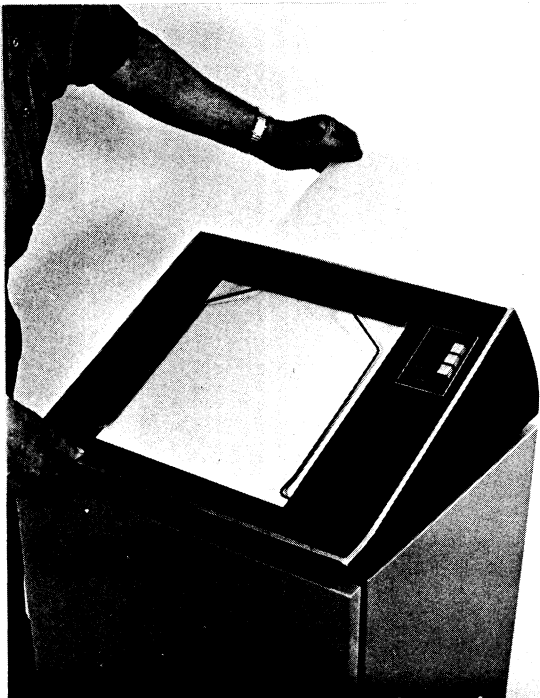

Figure 3-14 Paper Loaded and Top Casting Closed
9. Close the top casting as shown in Figure 3-14. Notice that the black mark is not visible.